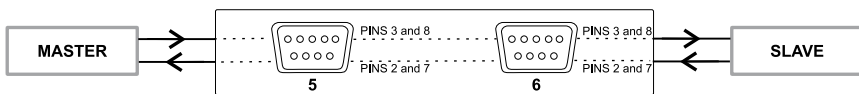

Figure 1: Bi-directional Signals I
- By using a pair of conductors, each signal travels in both directions via a balanced line between *Master / Slave* devices, as Figure 1 illustrates: